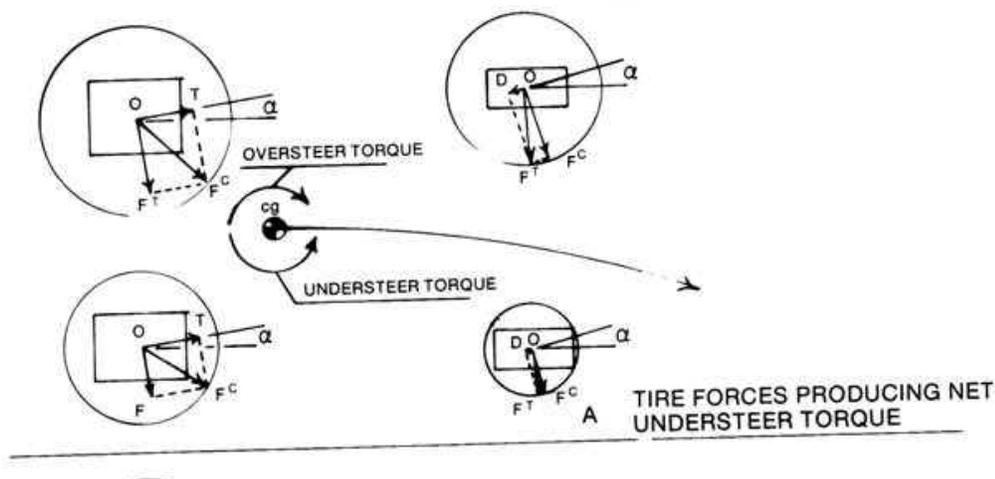

Figure 8
With zero front toe settings, the front tyre rolling drag creates a small understeer torque. Zapatal quantifies the rolling drag as being only 1% of the vertical load. However, in the corner, the drag component of the force acting on the tyre is very much greater. Drivers of low powered racing cars are familiar with how much speed you lose if the car has understeer in fast corners. Figure 8 shows the front tyre drag components of the lateral tyre force. The drag gets greater with increasing slip angle.
Figure 8 shows this important concept of the oversteer and understeer torques acting on the centre of gravity. Mark Ortiz, in my view the best writer in vehicle dynamics, often uses this concept to describe how a car will gain understeer or oversteer. Even if we can't calculate hard numbers, we can hopefully predict the direction the set up will take, as we attempted with this Carroll Smith Formula Ford example.
- With low profile tyres the slip angles will be a lot less. The tyre drag will be less. The slip angle on the inside tyre will have a smaller drag component (Figure 8). So it may be more difficult to use pro-Ackerman to create the oversteer torque. The toe out from the slip angles will be less. The slip angle variation from outside to inside tyre will be a smaller number, requiring different Ackerman to achieve what we want.